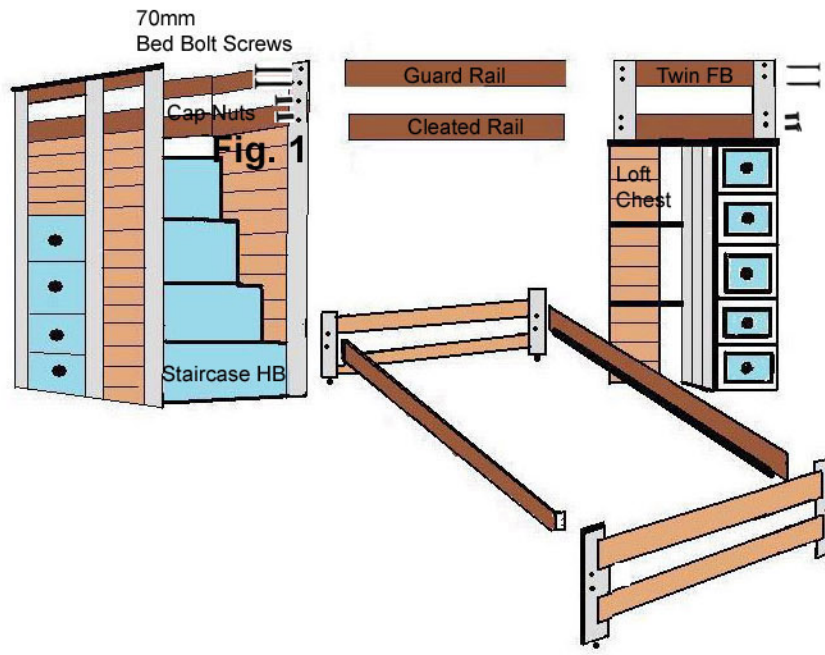

Fig. 2
6. Attach one guard rail to top set holes of FB by securing 70mm lag bolt screws thru FB holes and into pre-drilled holes in end of guard rail, as shown in Figure 2.